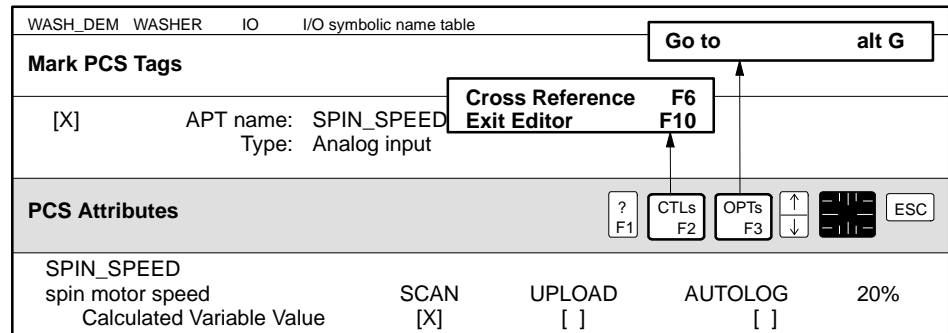

Figure 8-5 Example of Tag Attributes Sub-Editor
1. To access the Attributes Sub-Editor, place the cursor on the object (one of the extensions, if a complex object) and press **[F10]**. The attribute fields are displayed, as shown for SPIN_SPEED in Figure 8-5.